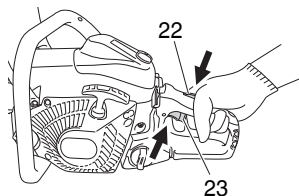

Fig. 17
8. As soon as engine start, pull throttle lever (23) full once with throttle lever lockout (22) and release immediately. (Fig. 17) Then half-throttle is disengaged.